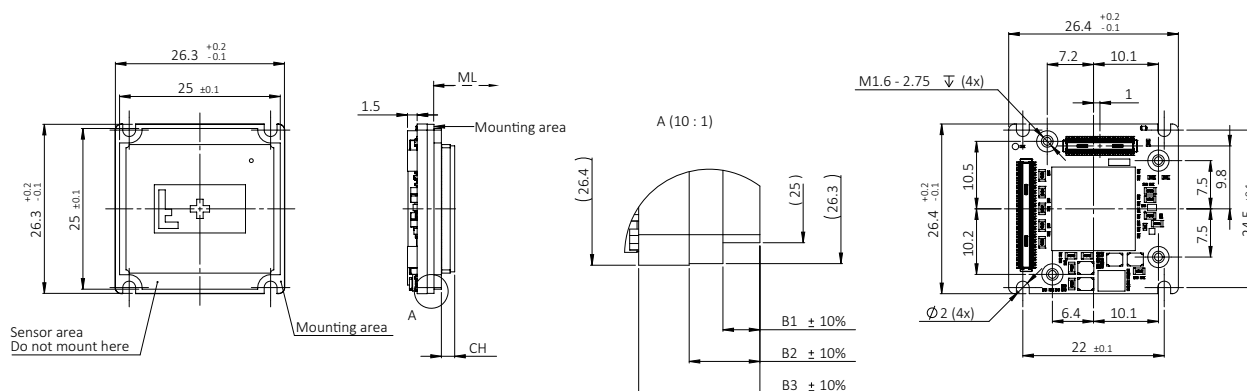

Figure 51: Alvium G1 BL No Mount dimensions
Dimensions that are common between different models are shown in Figure 51, model specific dimensions are listed in Table 74. **Mechanical length (ML)** defines the mechanical distance from the mounting area to the lens mount front flange, without optical filter. **Components height (CH)** relates to the electronic components with maximum height, sometimes the sensor.